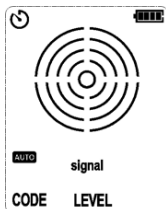

Figure 9.2.1a Auto Mode
2. The receiver is in power-on state by default, short press the AUTO/MANUAL button to switch to MANUAL scanning mode (reception level mode is 6), as shown in Figures 9.2.1a and 9.2.1b.